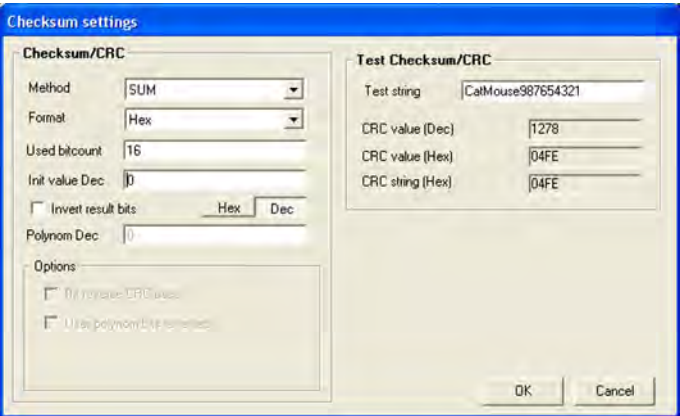

Figure 107 Checksum Settings Window
3. Select the **Report** tab on the right and click the **Checksum** button. The **Checksum settings** window opens as shown in Figure 107 on page 206.